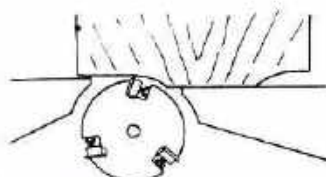

Fig.665 JOINTING AN END GRAIN
6. Reverse the board and joint the end to blend with the cut made in step 6 Fig.665.